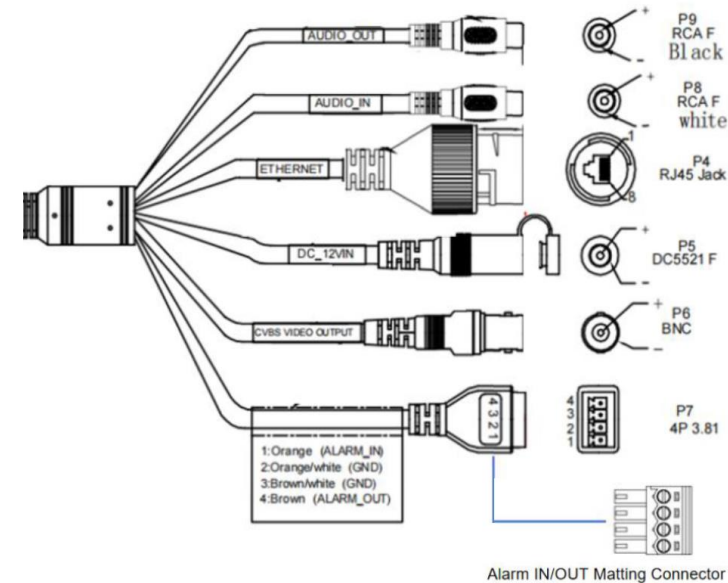

Figure 3
5. Connect the Alarm IN/OUT matting connector (Figure 3) with the relevant connector cable.
**Note:** See Figure 3 for additional information on all cable connections on the RJ45 cable.